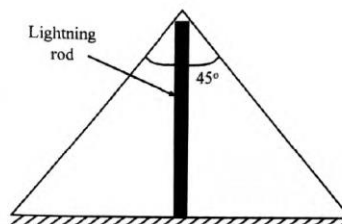

Figure 7.9: Lightning rod and its protection zone
- Protection zone of lightning rod is the **zone covered** by an angle of **45°** as shown in Figure 7.9. There are several calculations used for obtaining lightning rod length and distribution.